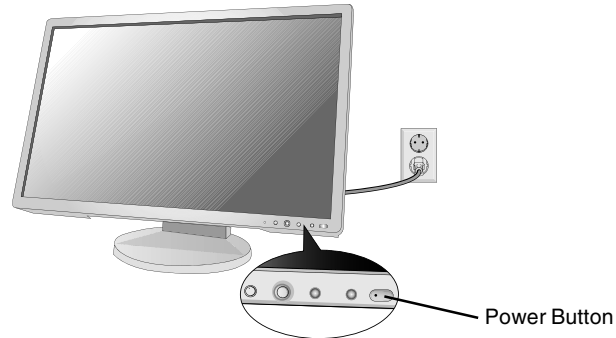

Figure E.1
8. Connect the power cord to the power outlet (**Figure E.1**).
9. Turn on the monitor with the front power button and the computer (**Figure E.1**).